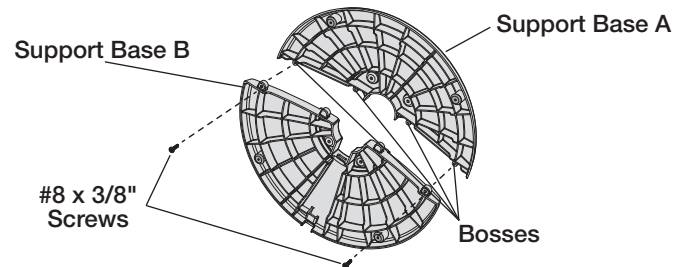
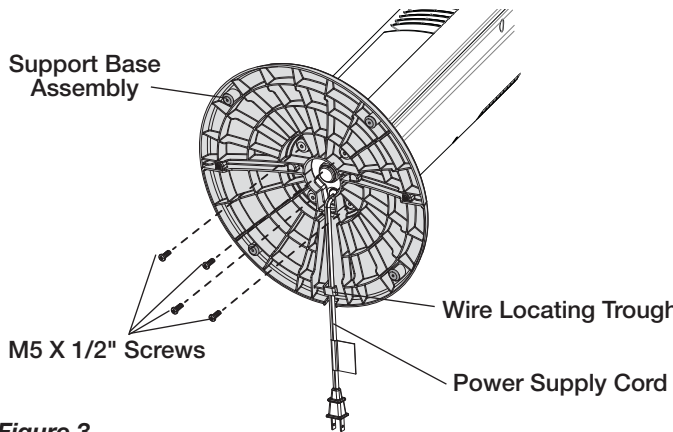

Figure 1
Figure 3
2. Assemble the Support Base Halves by interlocking the bosses on **Support Base A** into the **Boss Holes** on **Support Base B**. Secure (2) **#8 X 3/8" Screws** into the two outer holes in the bottom of the Base. *(Figure 1)*
4. Align the **Support Base Assembly** with the **Motor Base**, noting that the cord channel on the bottom of the **Support Base Assembly** should be towards the back of the Fan. Attach the **Support Base Assembly** to the **Motor Base** with 1/2" long **M5 screws**. Make certain to align the **Key** on the **Support Base Assembly** with the **Locating Notch** on the Motor Base. *(Figure 1)* Gently pull any excess slack of the **Power Supply Cord** and place it in the **Wire Locating Trough**. *(Figure 3)*